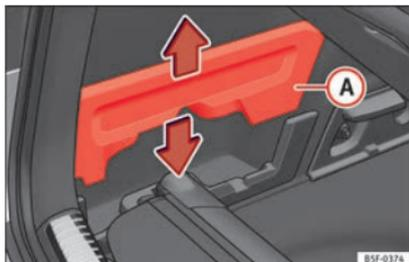

Fig. 122 In the luggage compartment: housing for storing the rear shelf.
- Remove covers »» Fig. 122 (A) left and right.